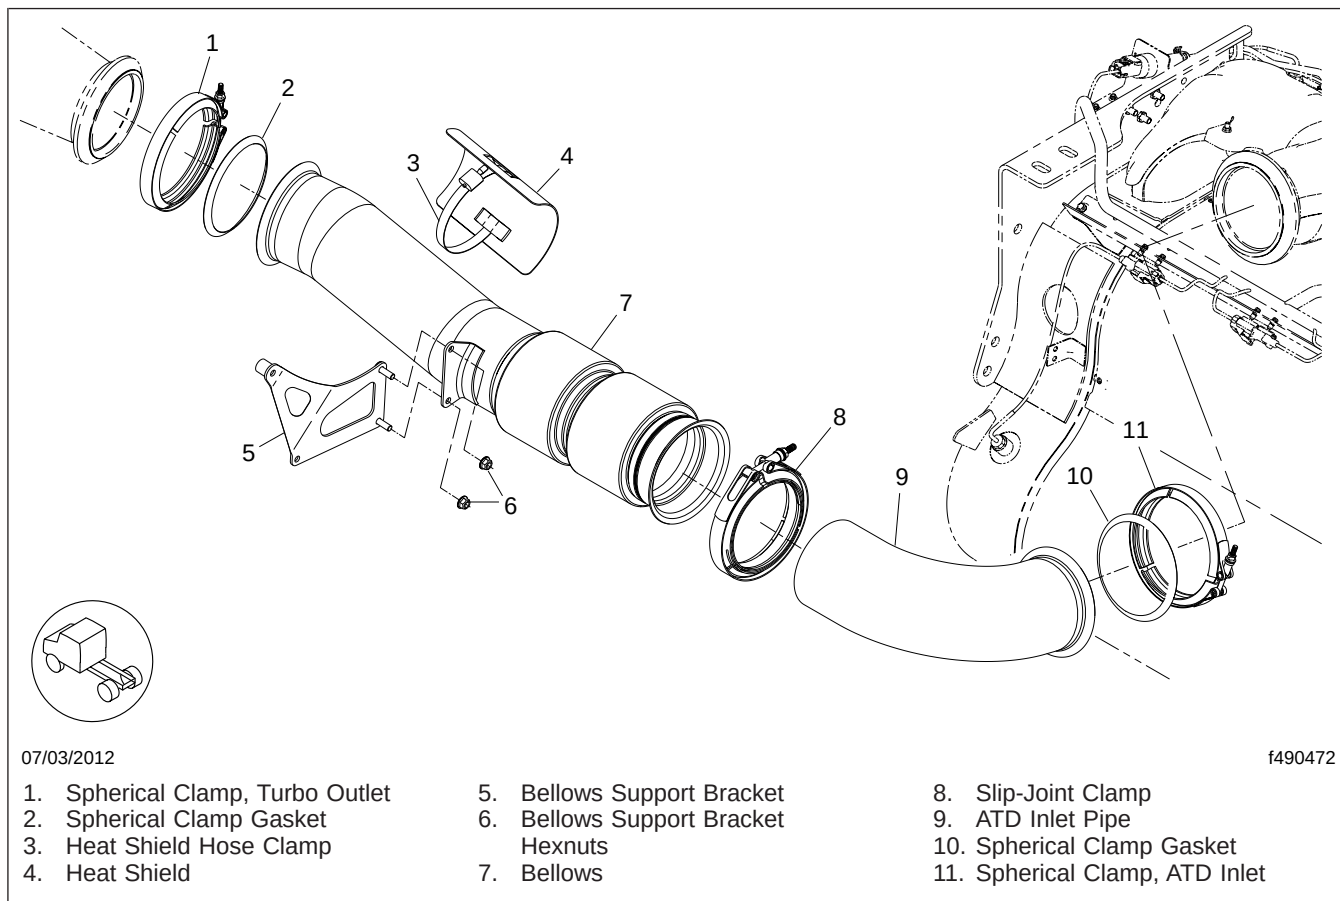

Fig. 1, Exhaust Bellows Installation (typical DD15AT shown)
13. Align the bellows assembly so it lines up with the bellows support bracket. See Fig. 1.